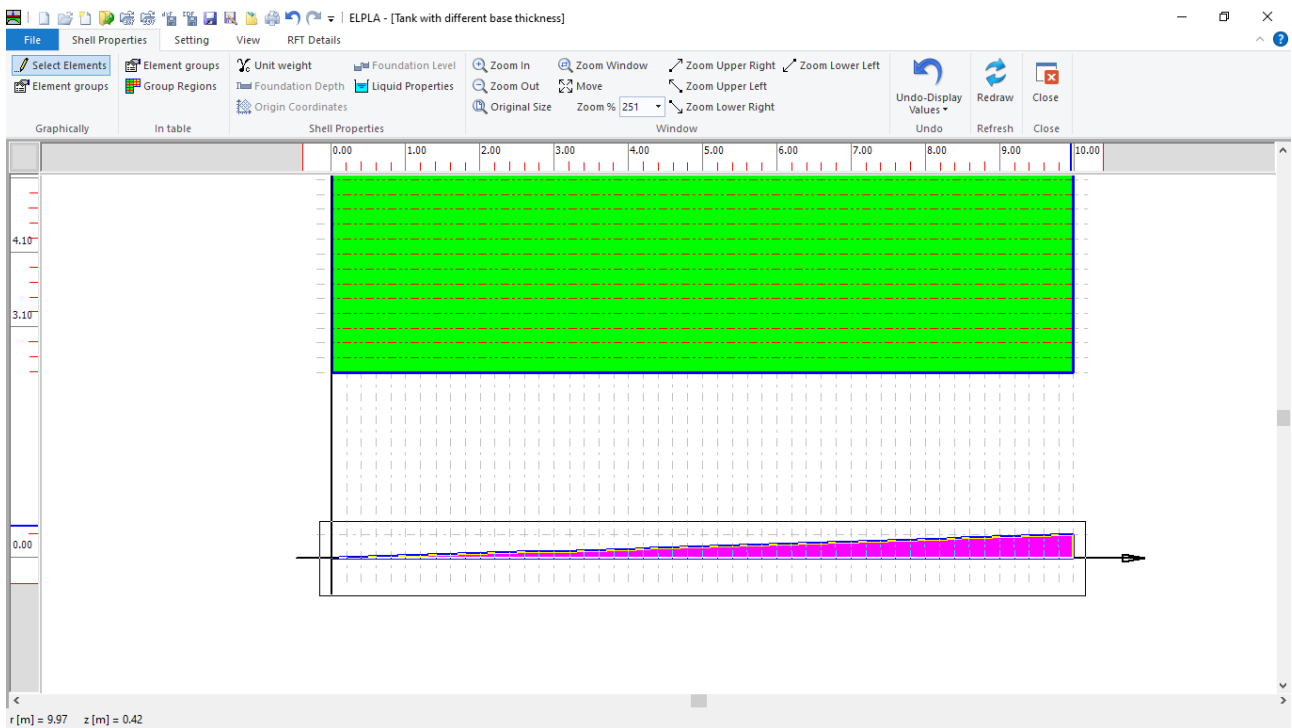

Figure 9.14 Selecting the nodes that include the tank base
- Select the elements that include the tank base as shown in Figure 9.14